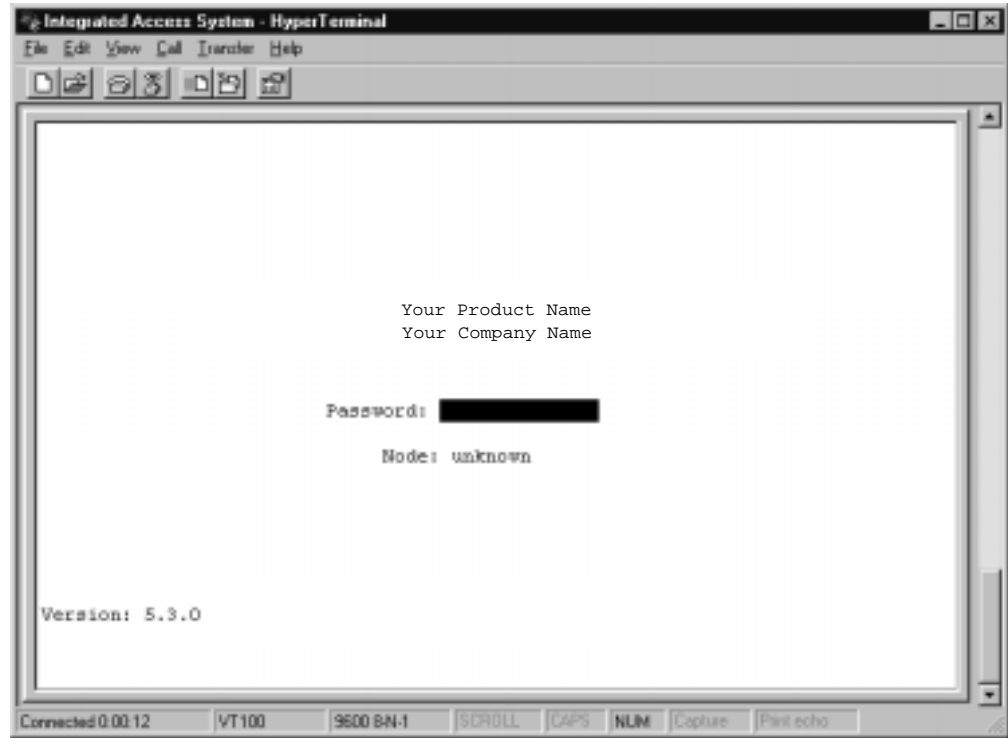

Figure 4-2. First Time Login Screen
6. Enter password as shown in Figure 4-2. Refer to Table 4-1 for default passwords and access level, press the <Enter> key.